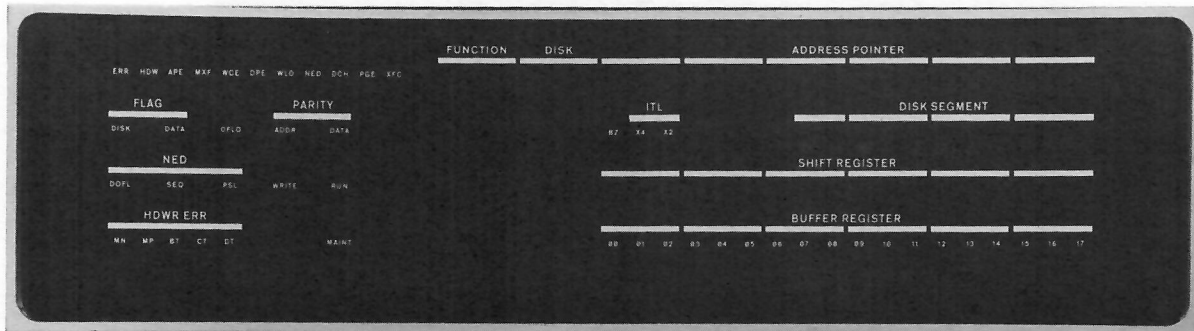

Figure 6-8 RF15 Indicator Panel
6.2.1.3 RF15 Indicator Panel - The RF15 Indicator Panel is illustrated in Figure 6-8 and described in Table 6-6.